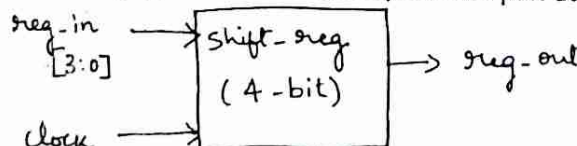

Fig.Q.4(c)
- c. A 4-bit parallel shift register has I/O pins as shown in Fig.Q.4(c) below. Write the module definition for this module shift_reg. Include the list of ports and port declaration. (04 Marks)